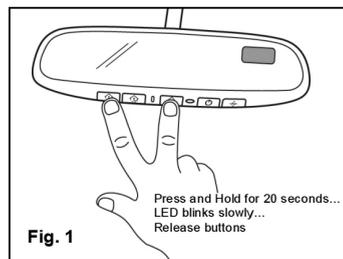

Fig. 1
NOTE: Programmed HomeLink® codes can be intentionally erased (when selling vehicle etc.) by holding the 2 outer buttons (as shown in Fig. 1) for 20 seconds until LED indicator begins to flash. Do not hold buttons for more than 30 seconds.
1. To begin, press and hold the 2 outer HomeLink® buttons (to clear memory) until the indicator light (LED) blinks slowly (approximately 20 seconds). Fig. 1